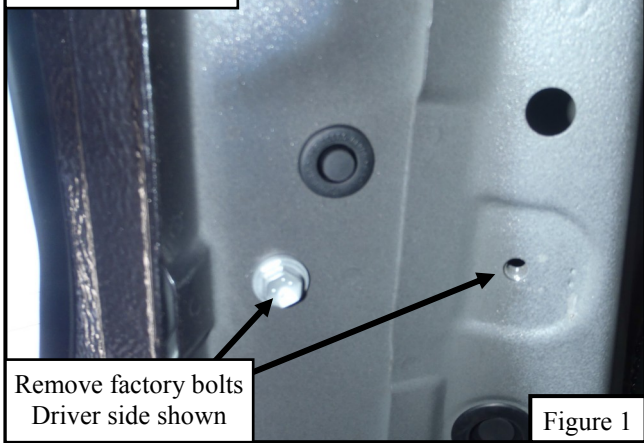

Figure 1
2. Start installation on the driver's side. On the rocker panel, find locations of factory bolts. Remove factory hardware and discard. **Note:** Brackets will be installed in these locations with provided hardware. See **Figures 1 & 2**.